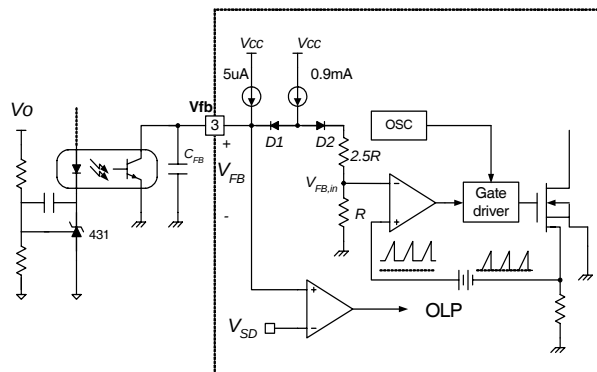

Figure 5. Pulse Width Modulation (PWM) Circuit
2. Feedback Control: The 700V FPS series employs current mode control, as shown in Figure 5. An optocoupler (such as the H11A817A) and shunt regulator (such as the KA431) are typically used to implement the feedback network. Comparing the feedback voltage with the voltage across the Rsense resistor of Sense FET plus an offset voltage makes it possible to control the switching duty cycle. When the KA431 reference pin voltage exceeds the internal reference voltage of 2.5V, the optocoupler LED current increases, the feedback voltage Vfb is pulled down and thereby reduces the duty cycle. This typically happens when the input voltage increases or the output load decreases.
4.3 Over Voltage Protection (OVP): In the event of a malfunction in the secondary side feedback circuit, or an open feedback loop caused by a soldering defect, the current through the optocoupler transistor becomes almost zero (refer to Figure 5). Then, V_{FB} climbs up in a similar manner to the overload situation, forcing the preset maximum current to be supplied to the SMPS until the overload protection is activated. Because excess energy is provided to the output, the output voltage may exceed the rated voltage before the overload protection is activated, resulting in the breakdown of the devices in the secondary side. In order to prevent this situation, an Over Voltage Protection (OVP) circuit is employed. In general, V_{CC} is proportional to the output voltage and the FPS uses V_{CC} instead of directly monitoring the output voltage. If V_{CC} exceeds 19V, OVP circuit is activated resulting in termination of the switching operation. In order to avoid undesired activation of OVP during normal operation, V_{CC} should be designed to be below 19V.